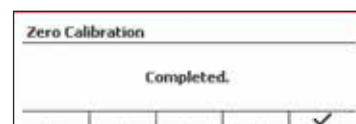

Figure 5
4. The message "Completed" will display on screen. (See Figure 5)